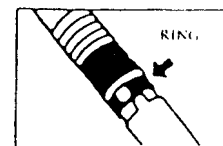

Fig. 1
1. The black ring is in security position (fig.1).